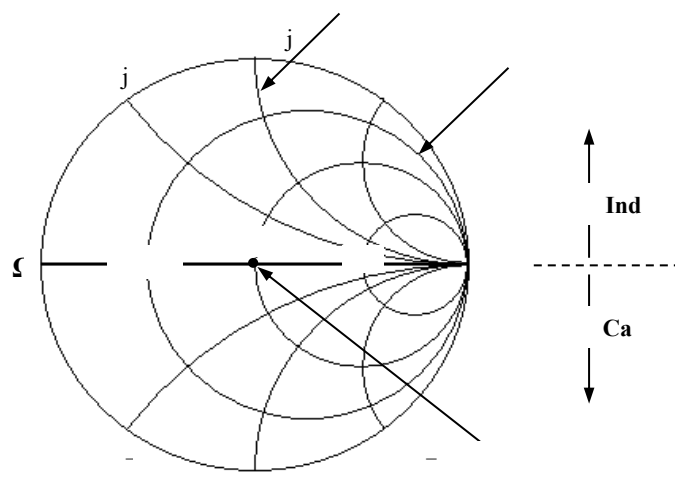

Figure 4.29 Smith chart format
The Smith chart shown in Figure 4.29 below is a tool to map the reflection measurement data of the DUT into an impedance. Each point on the diagram represents a complex impedance consisting of a real resistance (R) and an imaginary reactance ($\pm jX$). The resistance value, reactance value, equivalent capacitance value and inductance value of the DUT can be read through the marker.